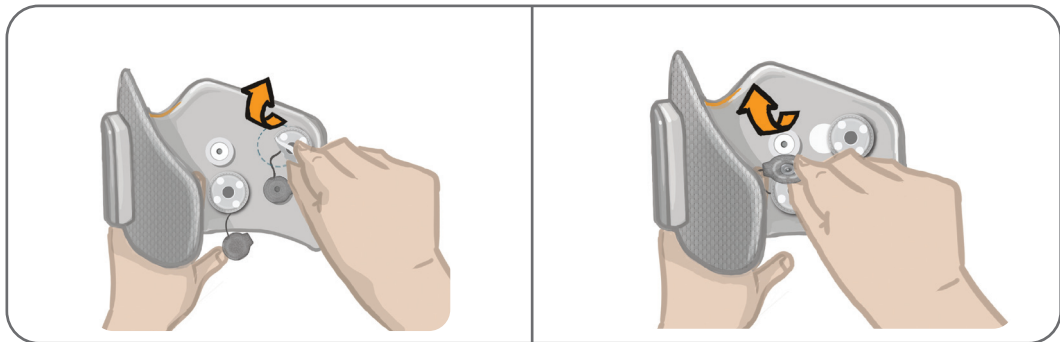

Figure 8-9: Attaching New Electrode Bases (Left)
5. Attach the new electrode bases where the previous bases were attached. See Figure 8-9.
6. Connect the electrode base snaps to the plug holes. See Figure 8-9.